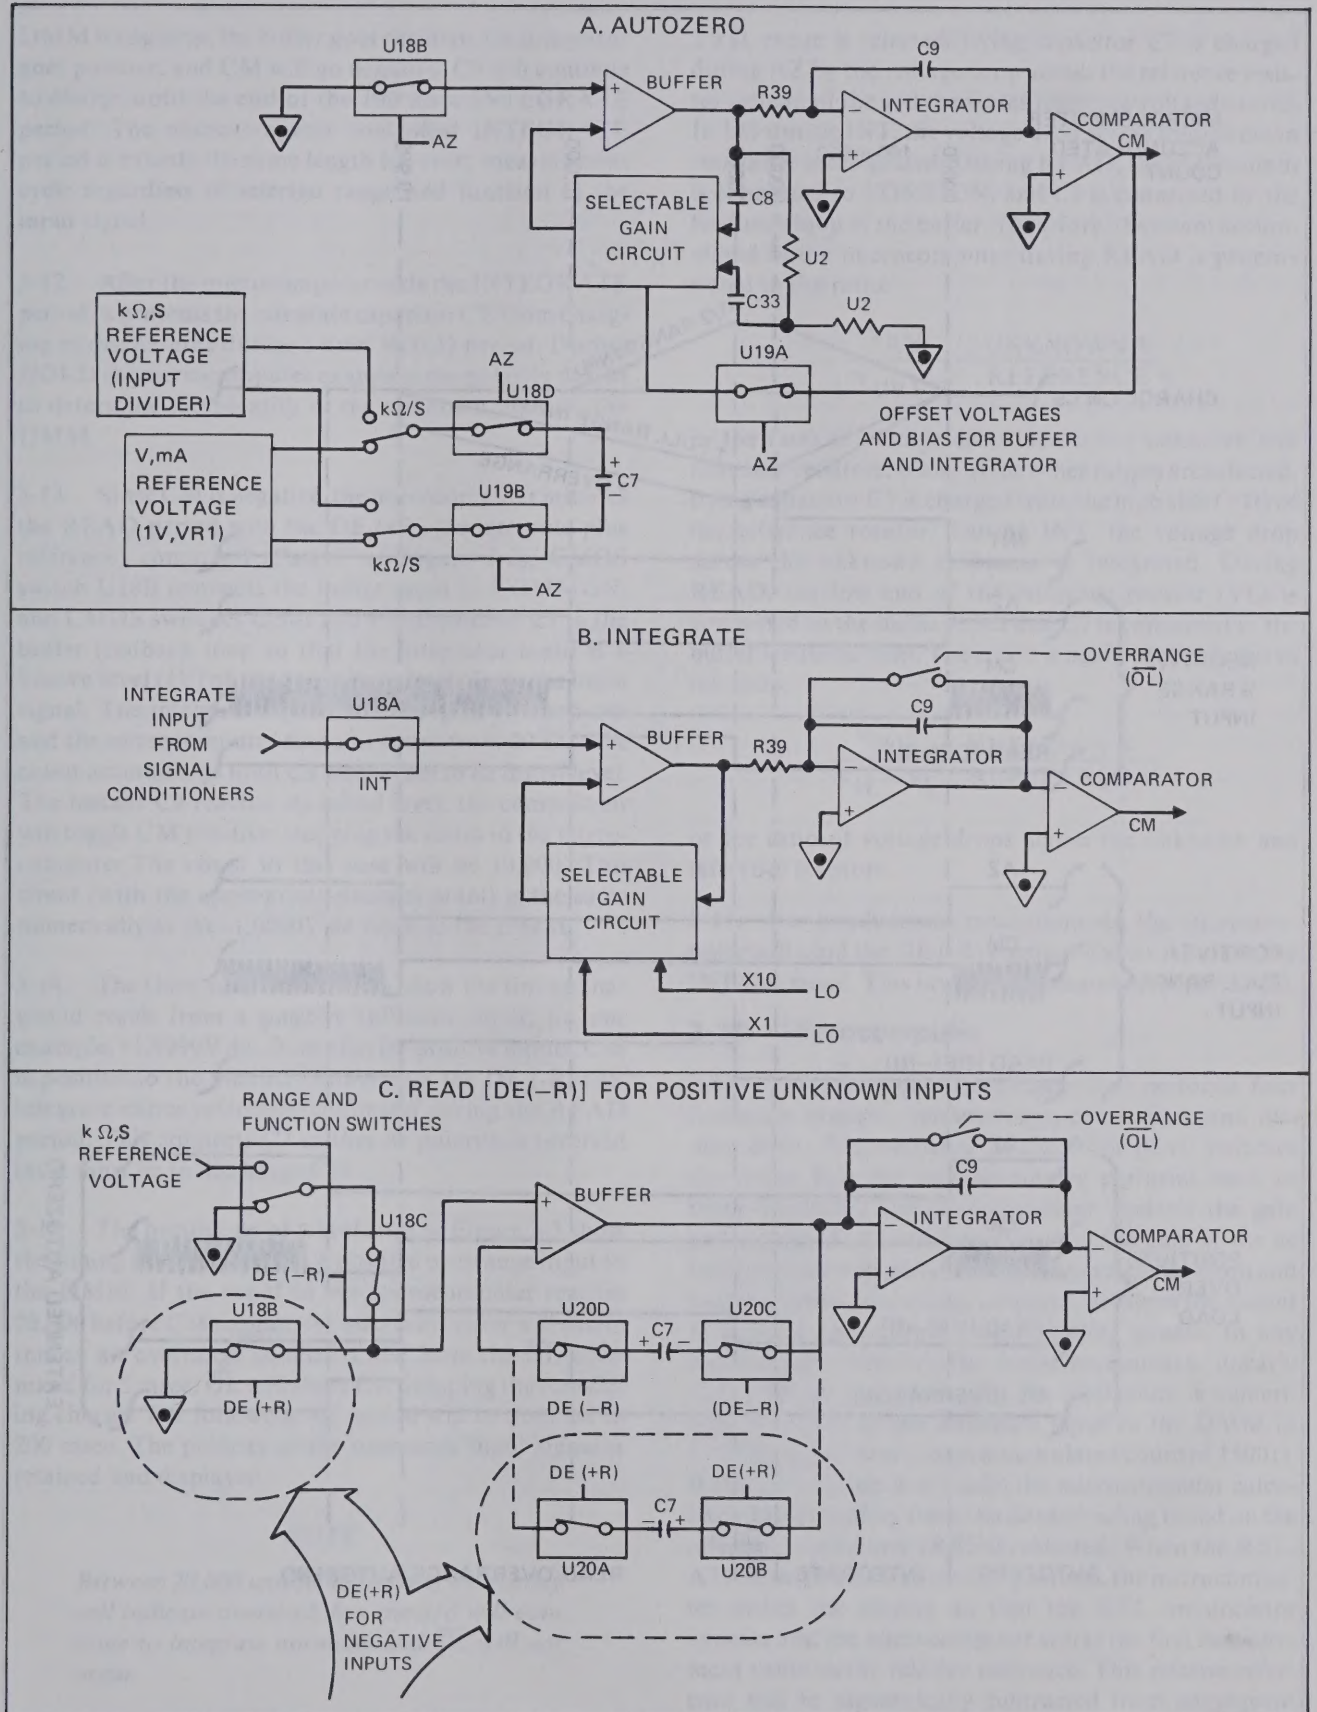
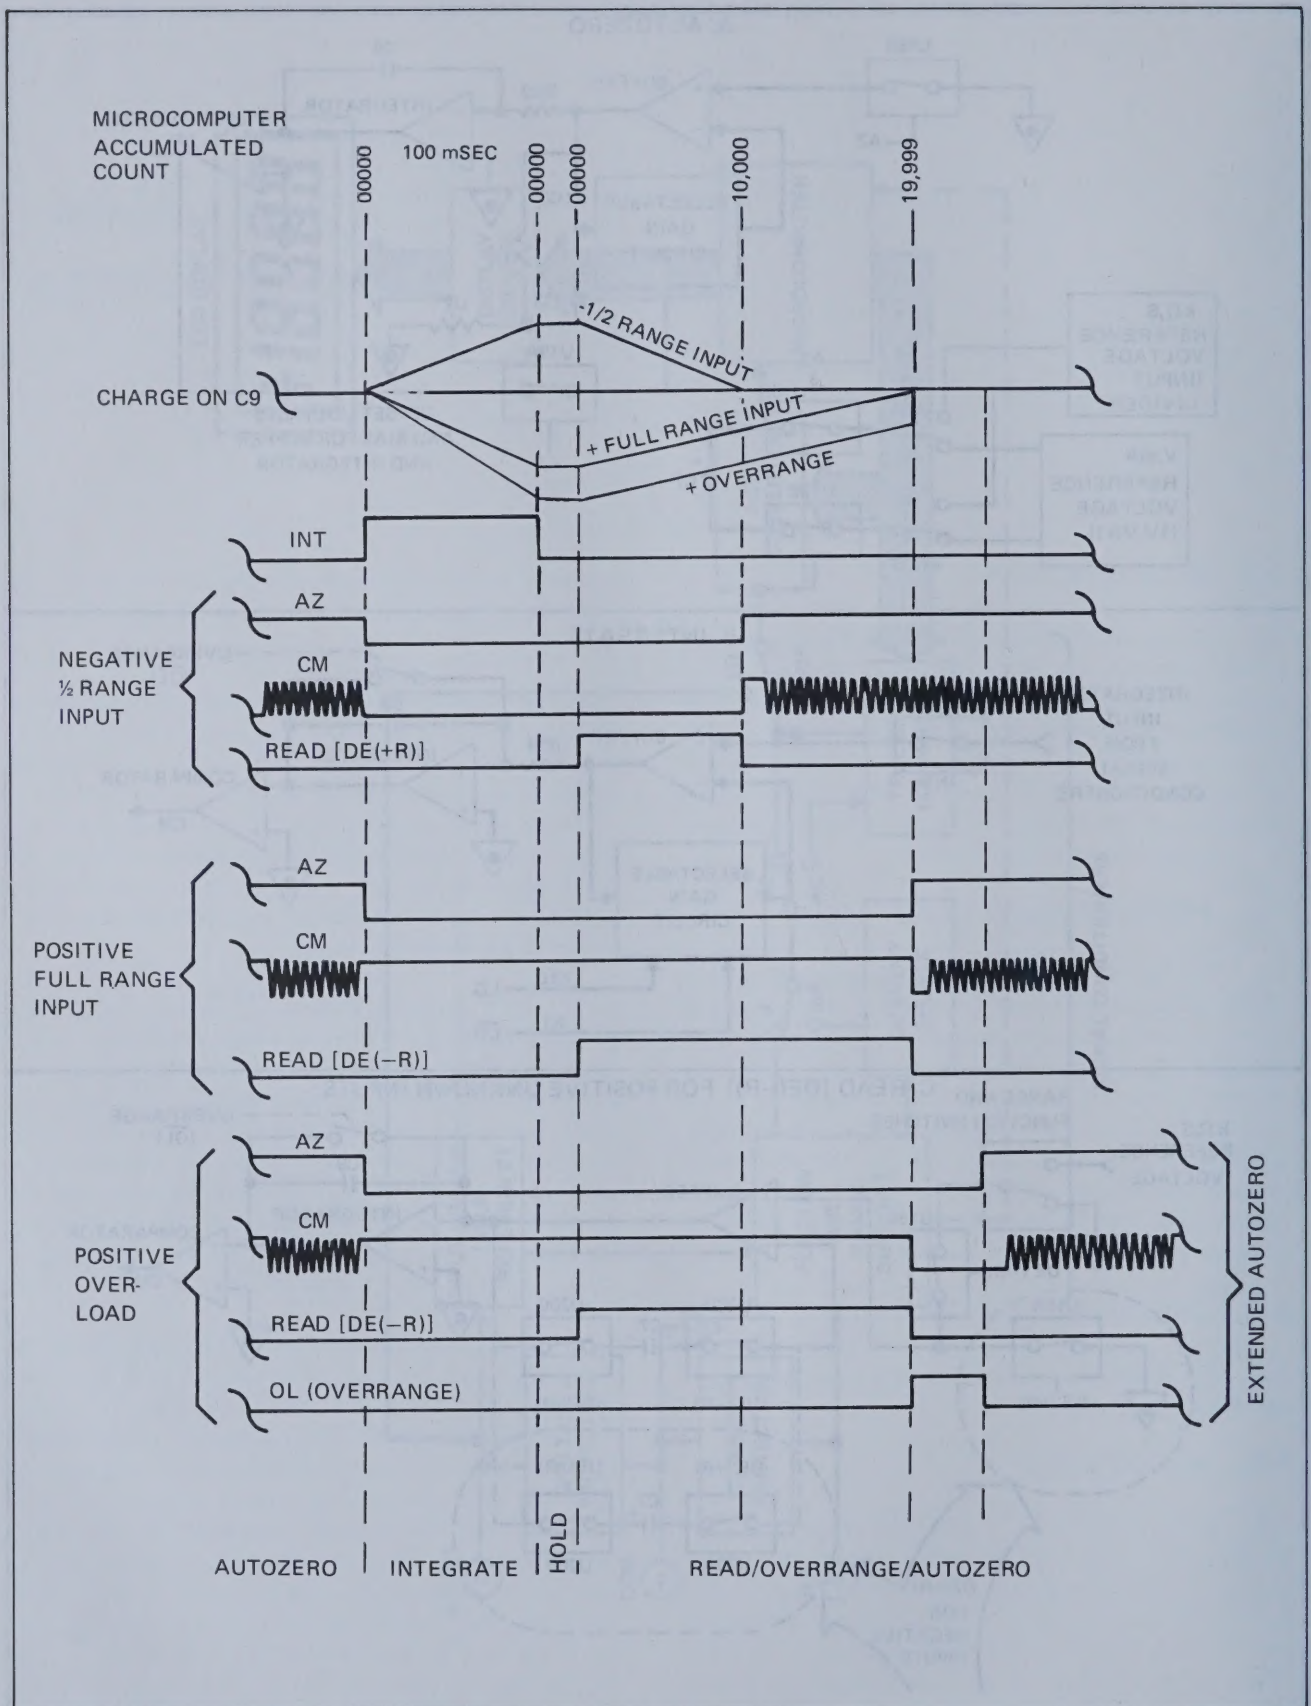

Figure 3-2. A/D Converter
Figure 3-3. A/D Converter Waveforms
3-9. The microcomputer controls the a/d converter via CMOS switches. Figure 3-2 shows the simplified circuits formed during the major periods of a/d conversion cycles. Figure 3-3 is a timing diagram that shows the a/d converter cycle resulting from three different input signals. Assume in reading the following paragraph that the DC V function and the 2 volt range are selected and the DMM is nearing the end of the AUTOZERO (AZ) period in its conversion cycle.
3-10. As Part A in Figure 3-2 shows, the CMOS switches U18B and U19A are closed providing voltage levels that allow C8 and C33 to store the offset voltages of the buffer, integrator, and comparator. CMOS switches U18D and U19B connect the flying capacitor, C7, to a reference voltage. Since the V function is selected, C7 is charged by the a/d converter reference voltage source. At the end of AZ, C7 is fully charged, C8 and C33 are charged up to the offset voltages, and the comparator output (CM) is near a threshold level.
3-11. Assume that an input of -1.0000V dc is present at the DMM input (first set of waveforms in Figure 3-3). The microcomputer starts the INTEGRATE (INT) command at the same time that it ends the AZ command. The a/d converter circuit is switched to the configuration shown in Figure 3-2, Part B. CMOS switch U18A connects the output of the signal conditioners to the input terminal of the buffer. For a 2V range, the microcomputer will select the X1 gain in the buffer and the input from the signal conditioner is applied to the buffer and integrator in series. The integrator begins to charge C9. The instant that the charge on C9 shifts from its initial level, the comparator will toggle — its COMPARE (CM) output goes to a steady level. Since the unknown input to the
3-13. Since CM is negative, the microcomputer initiates the READ period with the DE (+R) (de-integrate plus reference) command (Part C of Figure 3-2), CMOS switch U18B connects the buffer input to COMMON, and CMOS switches U20A and U20B connect C7 in the buffer feedback loop so that the integrator input is a known level (1V) of the opposite polarity from the input signal. The integrate capacitor C9, begins to discharge and the microcomputer starts to count from 00000. The count accumulates until C9 discharges to its initial level. The instant C9 reaches its initial level, the comparator will toggle CM positive, stopping the count in the microcomputer. The count in this case will be 10,000. This count (with the appropriate decimal point) is the same numerically as the -1.0000V dc input to the DMM.
3-15. The bottom set of waveforms in Figure 3-3 show the timing that results from a positive overrange input to the DMM. If the count in the microcomputer reaches 20,000 before CM toggles, the microcomputer will detect this as an overrange condition and issue the $\overline{OL}$ command for 5 msec. $\overline{OL}$ will short C9, dumping the remaining charge. The following AZ period will be doubled to 200 msec. The polarity of the overrange input signal is retained and displayed.